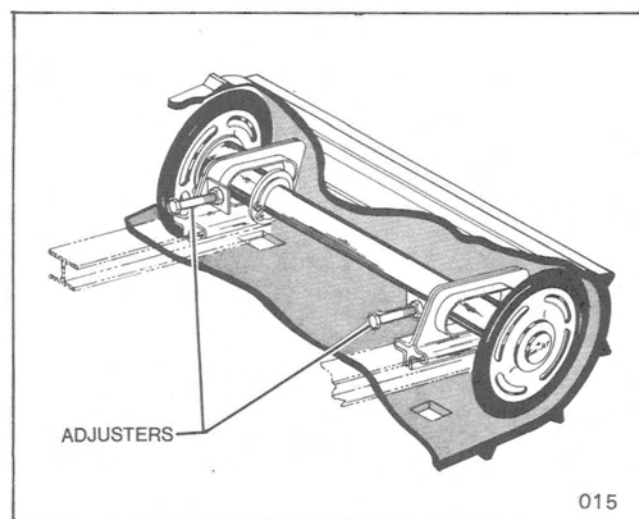

Figure 55
The track should have one inch slack between the cleat and the hi-fax. This should be checked with the machine supported in the rear and pulling down at the bottom center of the track. If incorrect, adjust the two idler wheel adjustment bolts located in the rear of the skid frame (Figure 55).
2. Turn adjuster bolt, on that side only (Figure 55).